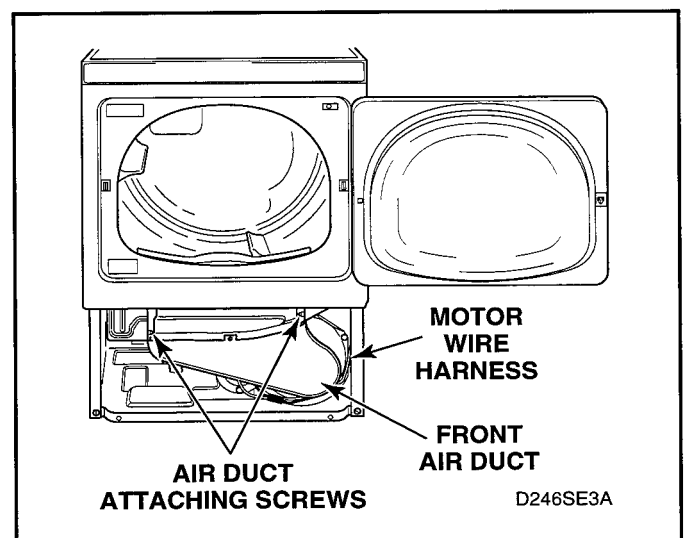

Figure 5-13
- Remove two screws holding duct to front bulkhead and remove air duct. See figure 5-13.
- Remove screws holding air duct to front bulkhead and remove air duct. See figure 5-13.
**IMPORTANT:** When reinstalling motor and exhaust assembly, be sure wire harness on right side is clipped to motor mounting bracket and is routed along dryer base (between motor mounting bracket and right side of cabinet). See figure 5-13. Tab on rear of motor mounting bracket must be slid into slot in dryer base. Be sure the belt has been installed on the correct side of the idler lever. See figure 5-15.